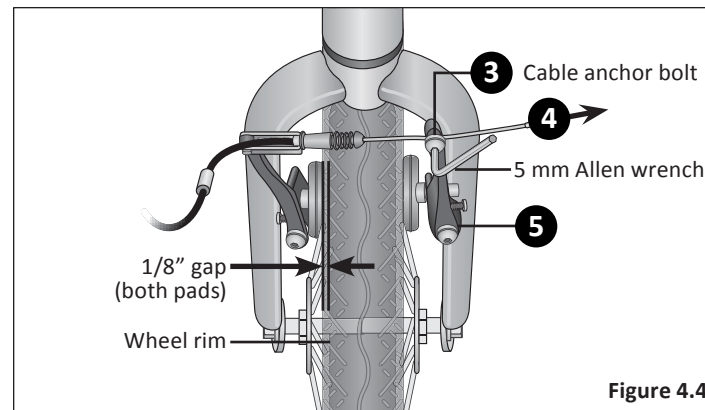

Figure 4.4
- ❸ Check the brake cable is seated in the brake lever. Using a 5 mm Allen wrench loosen the cable anchor bolt enough so the brake cable can move freely. **Figure 4.4**
- ❹ Pull the brake cable through the cable anchor so the left brake arm moves towards the rim and there is approximately a 1/8" (3 mm) gap between the brake pad and rim.
- ❺ Move the right brake arm towards the rim until there is approximately a 1/8" (3 mm) gap between the brake pad and rim.
- ❻ Using the 5 mm Allen wrench, firmly tighten the cable anchor bolt completely.